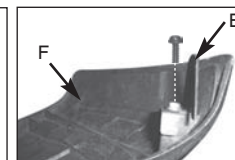

Fig. 10
1. Remove cutter knife (E) from debris shield (F) (Fig. 10).